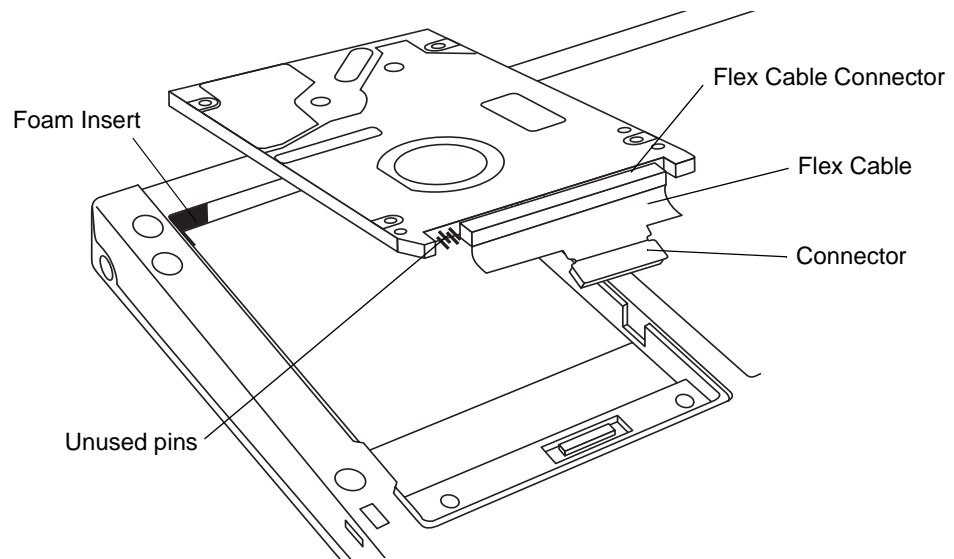

Figure A-5: Installing the IDE Hard Disk Drive
- Remove the hard drive from the tray, as illustrated in Figure A-5. Once the hard disk drive has been removed from the pen tablet, you can install a new hard disk drive. If you are returning the hard disk drive for repair, ensure that the packaging material will protect the drive sufficiently during shipment.
1. Connect the flex cable to the hard disk drive and fold the tab on the flex cable down under the flex cable as shown in Figure A-5. Note the orientation of the hard disk drive and note that four pins on the hard disk drive connector are not used. (The connector on the flex cable is keyed so it cannot be installed incorrectly.)